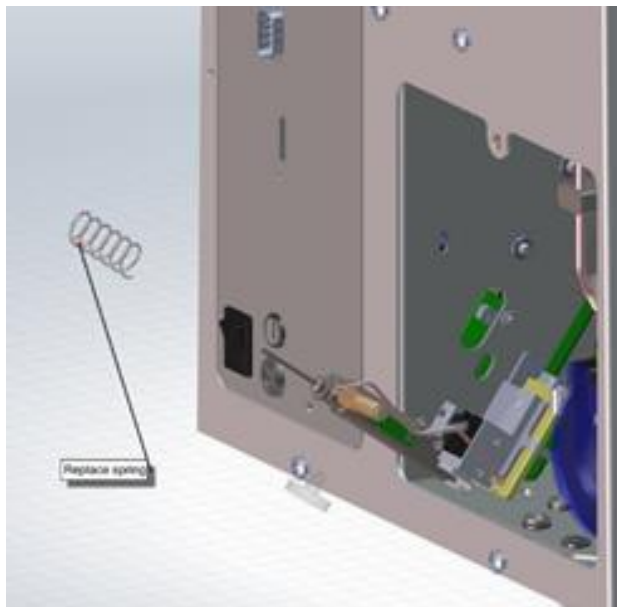
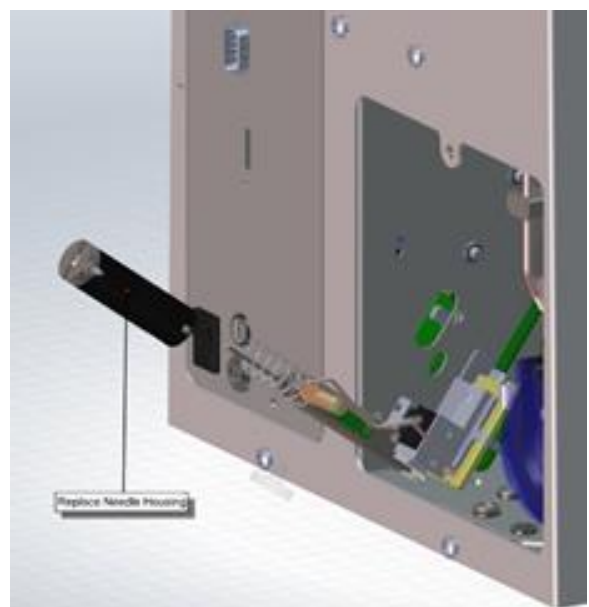

Figure 13
Figure 14
11. Replace the Spring (Figure 13) and Needle Tube Housing (Figure 14)